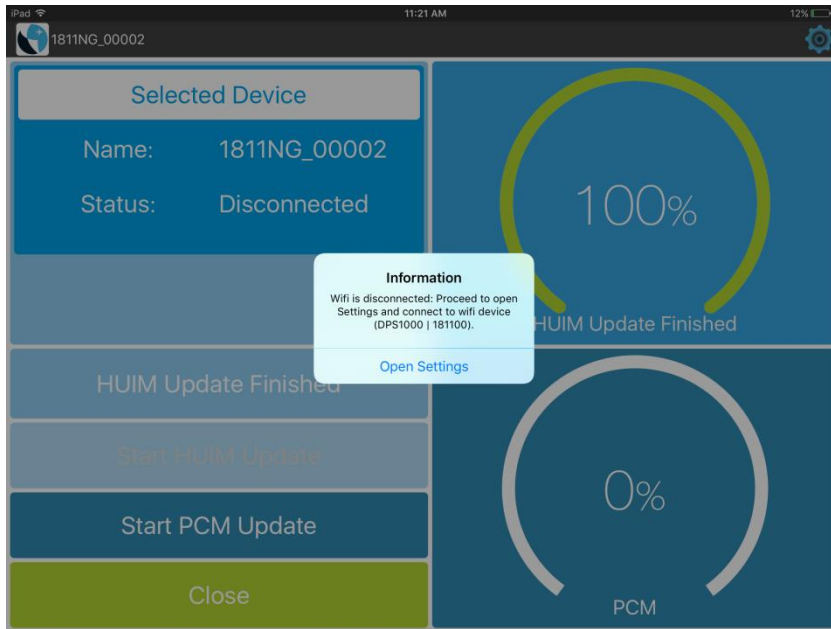

Figure E. 17 Connect to Wi-Fi Screen
- d) Once update is completed, a pop-up screen appears with the message below (Fig. E. 17).